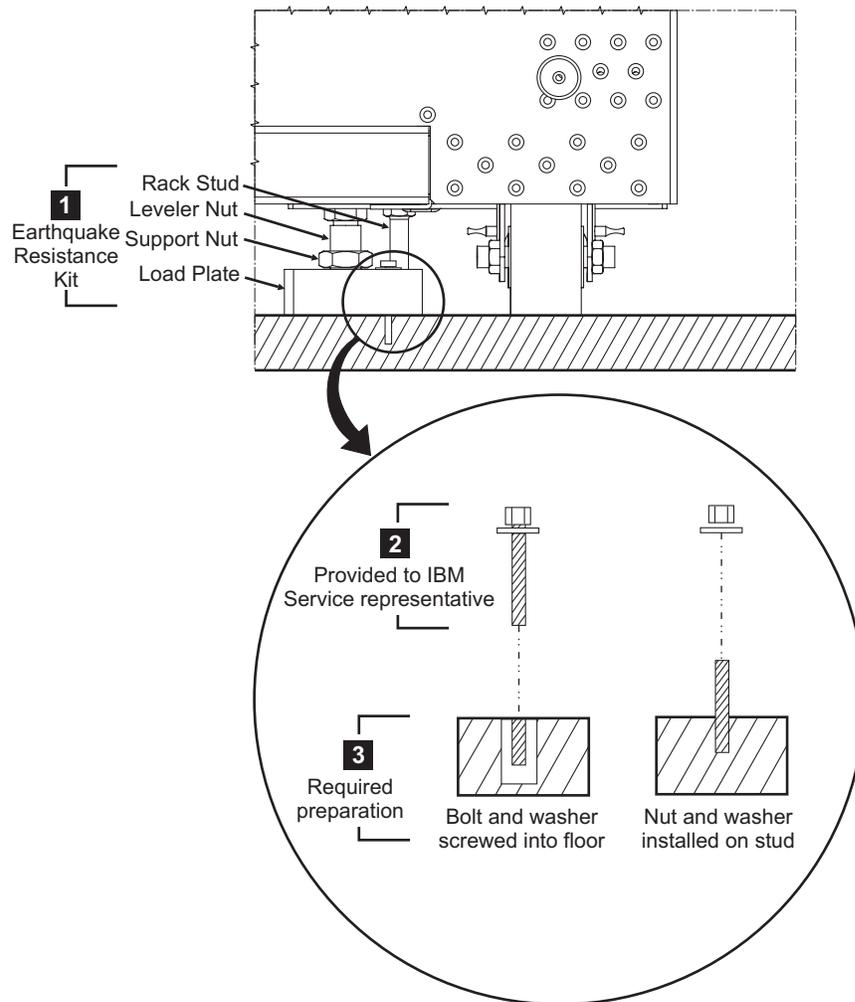

Figure 26. Earthquake Resistance Kit, as installed on a nonraised floor. The detail shows two of the most common fasteners that you could use.
Figure 26 provides an illustration of the Earthquake Resistance Kit (**1** in the figure) after the IBM service representative installs it on the nonraised floor. Before the IBM service representative installs the kit, you must prepare the area shown as **3** in the figure.
Figure 26 on page 158 shows illustrations of the example fastener sets.
3. When the IBM service representative arrives to install the Earthquake Resistance Kit, provide the other fastener parts (**2** in Figure 26 on page 158) so that the representative can use these parts secure the load plates onto the floor.